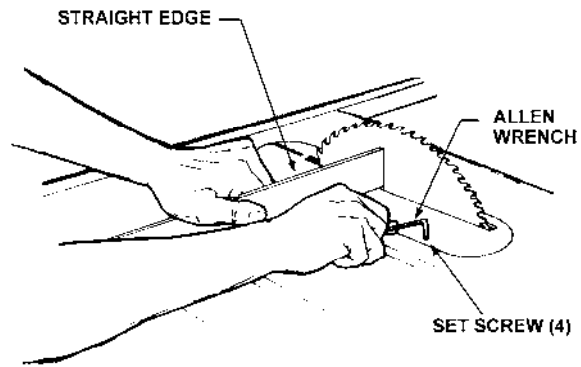

Figure 22
1. Place the table insert into the table opening. With a straight edge, check to see if the insert is level with the surface of the table. See Figure 22.